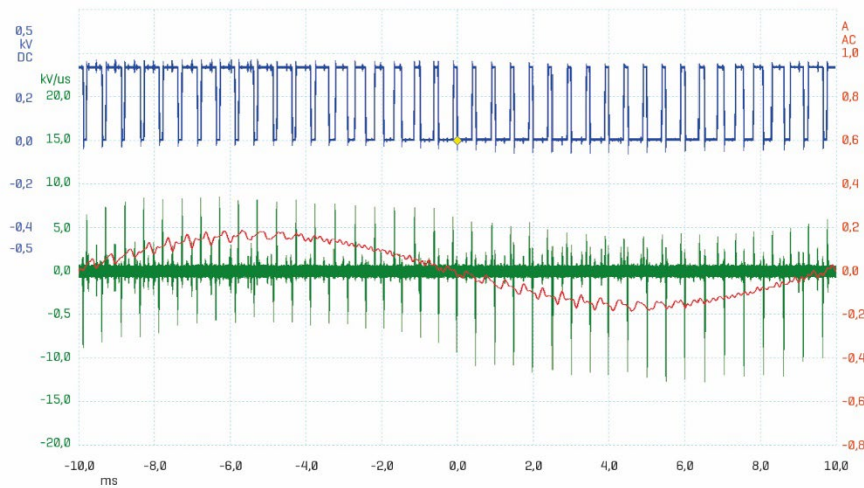

Figure 8: Low noise with 15-bit / 8 ns
- a) 15-Bit AD resolution / 8 ns sampling time (Fig. 8)
Figure 8 shows that a **high** AD resolution (15-bit) and a **long** sampling time (8 ns) result in **low** noise.